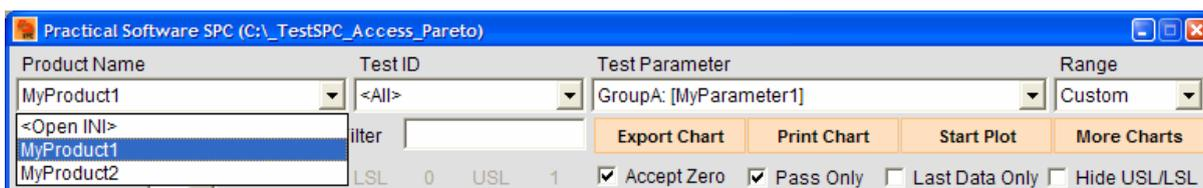

Figure 7 Product Name List Box
**TestProduct** that available for selection (see Figure 7), each item will separate by comma. You can define any your preferable name. However, the product name in ATE.INI must conform to product name in PRODUCTS.INI.